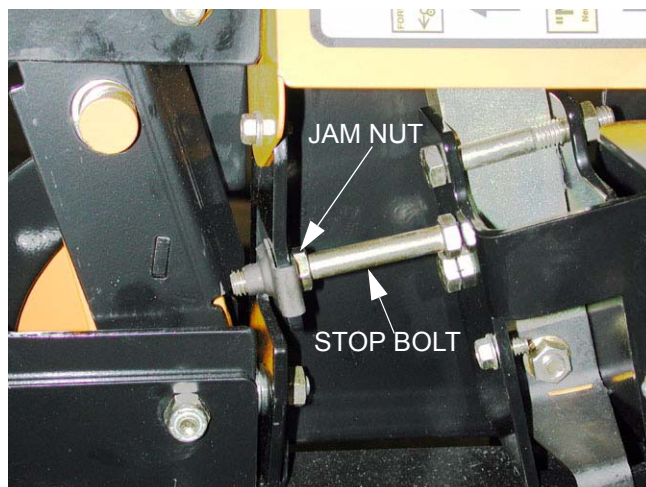

Figure 4.15
- 4.15. Remove the stop bolt that sets the end of the travel of the lap bar that controls the hydro pump to be tested. See Figure 4.15.